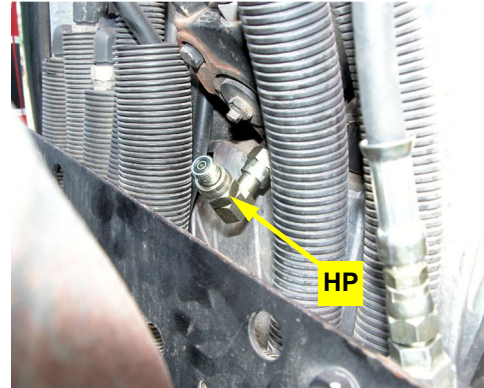

Figure 8-2c: Elbow adapter installed at LS port
c. Disconnect the tractor load sense hydraulic hose from the steering orbital and install the elbow adapter fitting **HP** to the load sense port on the steering orbital (Figure 8-2c).